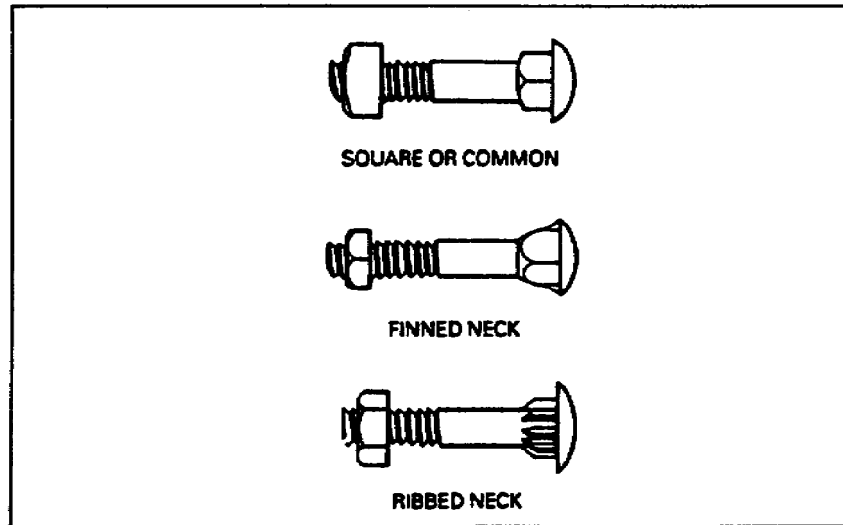

Figure 1-48. Carriage bolts
c. Carriage Bolts. Carriage bolts are like machine bolts except for the heads, which are round (Figure 1-48). The shank of the carriage bolt has a square portion, which